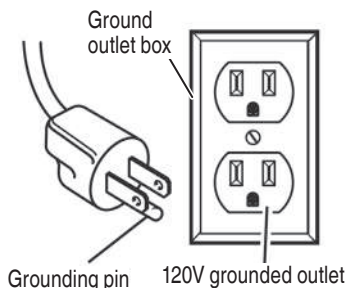

Fig. 1
5. This product is for use on a nominal 120-V circuit and has a grounding plug similar to the plug illustrated in Fig. 1. Only connect the product to an outlet having the same configuration as the plug. Do not use an adapter with this product.